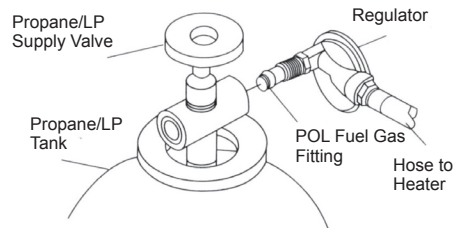

FIGURE 2
3. Connect fuel gas fitting hose/regulator assembly to propane LP tank(s). (See figure 2) Turn POL Fuel fitting counterclockwise into threads on tank. Tighten firmly using a wrench. Some models have a hand wheel that can be used to tighten the fitting. This hand wheel can be slid off of the nut so that a wrench can also be used to tighten the fitting. **IMPORTANT:** Position regulator so that hose leaving the regulator is in a horizontal position.